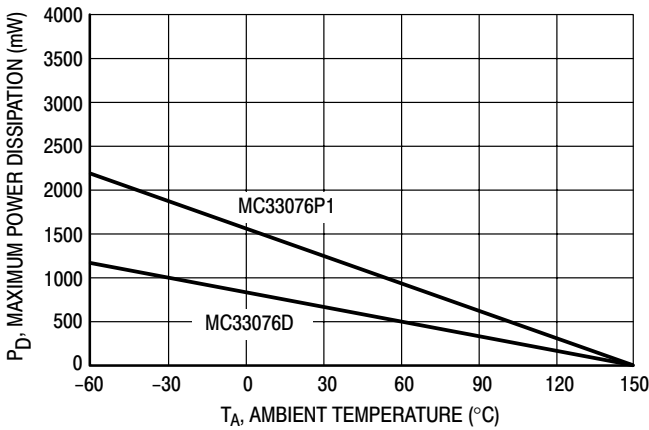

Figure 2. Maximum Power Dissipation versus Temperature
- Power dissipation must be considered to ensure maximum junction temperature ( $T_J$ ) is not exceeded** (see power dissipation performance characteristic, Figure 2). See applications section for further information.